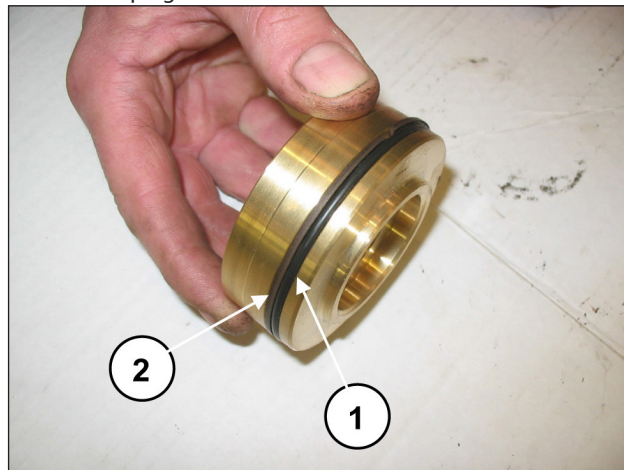

Fig. 127
Fit the O- ring, exploded view pos. 17 (pos. ①, Fig. 127) and back-up ring, exploded view pos. 21 (pos. ②, Fig. 127) on the outlet valve plug.